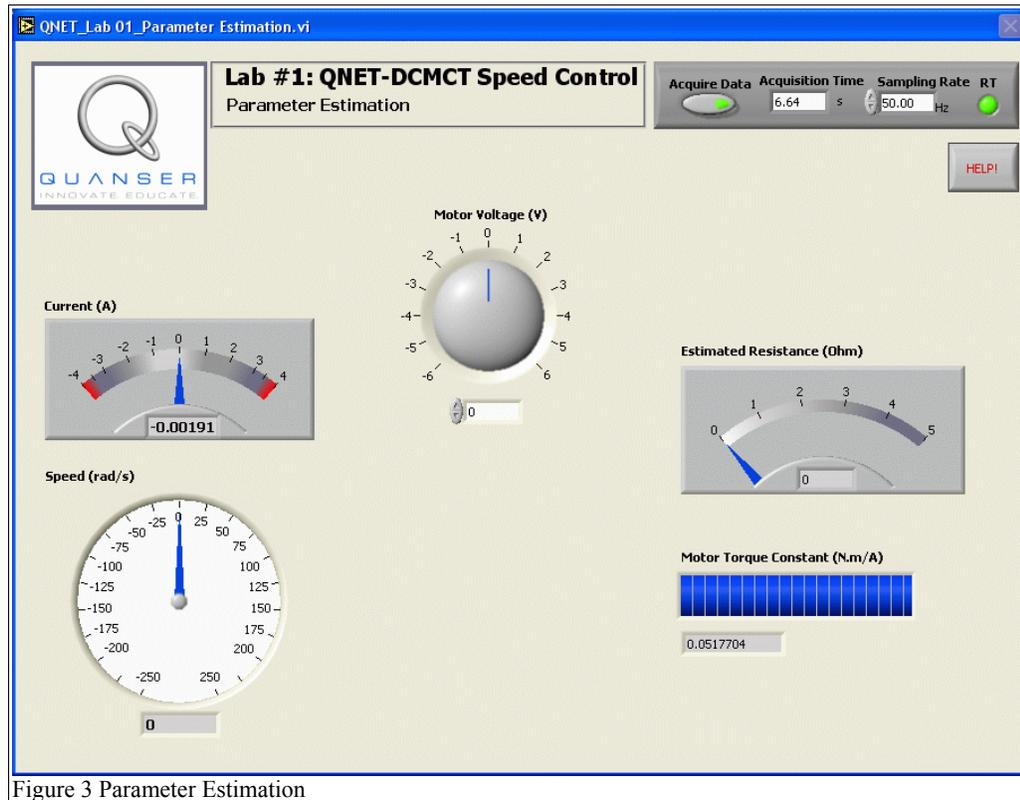

Figure 3 Parameter Estimation
- (1) **Motor Electrical Resistance (R_m)** – An electrical property of a motor. It describes the motor's response to a given voltage and determines the amount of current able to flow through the motor.
- (2) **Motor Torque Constant (K_t)** – Describes the torque a motor generates and is directly proportional to the current going through the motor. Note that the electromotive force constant, K_m , is equal to the motor torque constant K_t .
- (3) **Moment of Inertia (J_{eq})** – The moment of inertia of the disc load and the motor shaft.
- Step 4. Select the *Parameter Estimation* tab that opens the sub-VI shown in Figure 3.
- Step 5. The current running through the motor armature, the speed of the motor shaft, the motor terminal resistance, and the torque constant are measured using the tachometer and the current sensor. They are displayed through the various gauges shown in Figure 3. The input voltage of the motor, V_m , is controlled using the knob in the top-center of the VI. The top-right panel contains an *Acquire Data* button that stops the VI when pressed. Additionally, the panel contains an *Acquisition Time* indicator that displays the running simulation time of the VI, a control that can change the rate at which the analog controller are sampled, and an LED that indicates whether the controller is maintaining real-time. Real-time is maintained when the VI does not lose any samples from the sensors.